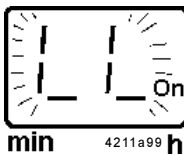

Fig. 29 - Display of a low-level indication
- In the case of a low-level indication the pump does not switch off immediately. The current lube cycle is completed. Upon expiration of the pause time, the pump cannot be started automatically again. The flashing indication \* LL\* appears on the display of the membrane key pad (fig. 29).